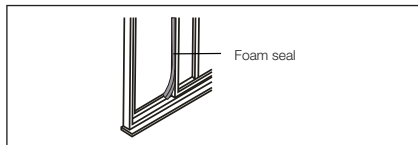

Fig. 21
6. Cut the foam seal to an appropriate length and seal the open gap between the sliding sash and outer window sash, as shown in Fig.21.